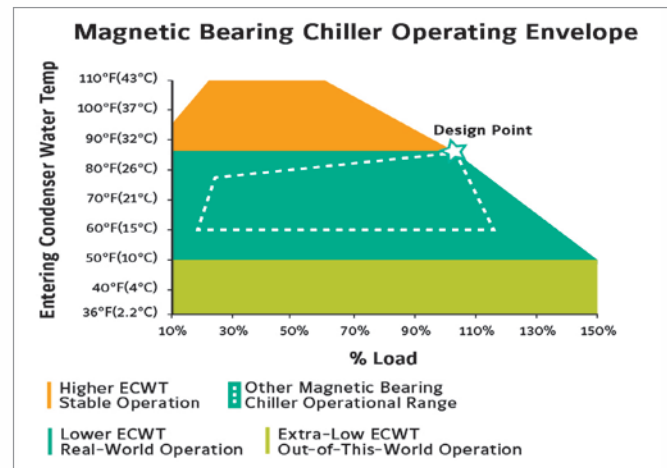

Figure 5: Operating envelope of a magnetic bearing chiller
A magnetic bearing chiller can operate as long as it is within the acceptable lift range for the impeller and is not limited by any other factor, such as motor cooling or oil loss to evaporator. *Figure 5* shows the operating envelope of an advanced magnetic bearing chiller demonstrating performance at the 100% load point with varying ECWT down to 36°F (2°C). It is possible to achieve 100% load at 40°F (4°C) condenser entering fluid temperature (CEFT) for 0.2 kW/ton. A tropical climate may not see such low WBT or cooling tower (CT) water temperatures. Nevertheless, similar lower lift conditions occur with higher chilled water (CHW) temperatures of 60°F (15°C) to 70°F (21°C) used in data center applications or in a dual loop system using chilled beam or radiator cooling. In these cases, the sensible load is addressed by a cooling system having high chilled water temperature.